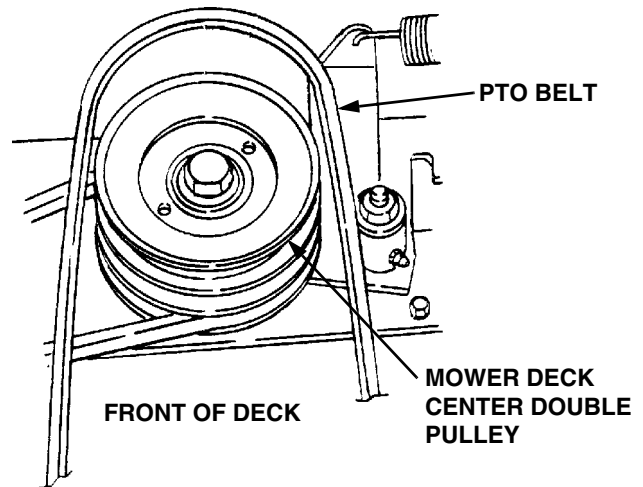

Figure 55
13. Install the rearward end of the PTO belt on the upper pulley of the deck center double-pulley (Refer to Figure 55). Ensure that the narrow side of the belt engages the groove of the upper pulley.